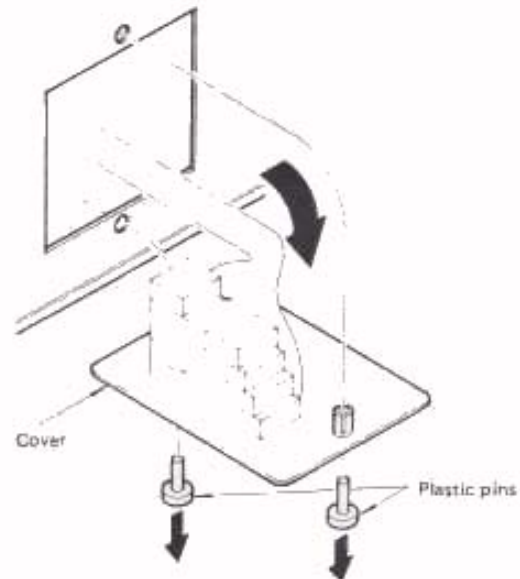

Figure 2
- (1) Remove the small cover from the bottom of the receiver, as shown in Fig. 2.